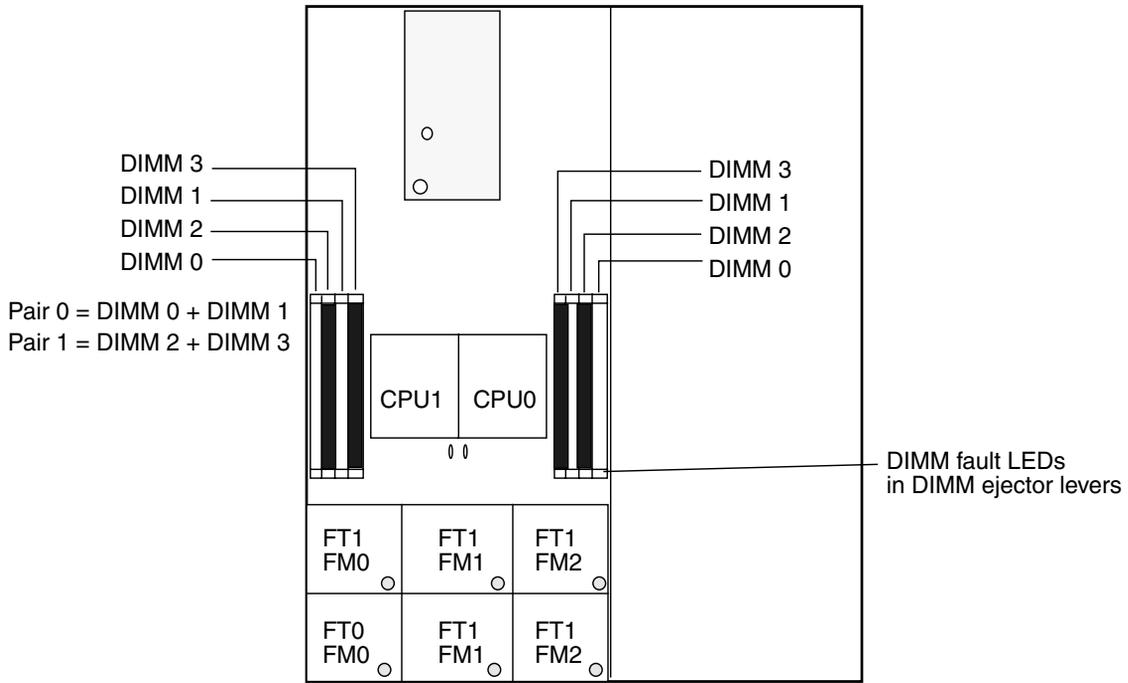

FIGURE 1-4 Sun Fire X4100/X4200 DIMM Slot Locations
FIGURE 1-4 shows the numbering of the Sun Fire X4100/X4200 DIMM slots.
3. **Inspect the fault LEDs on the DIMM slot ejectors and the CPU LEDs on the motherboard. See FIGURE 1-4.**